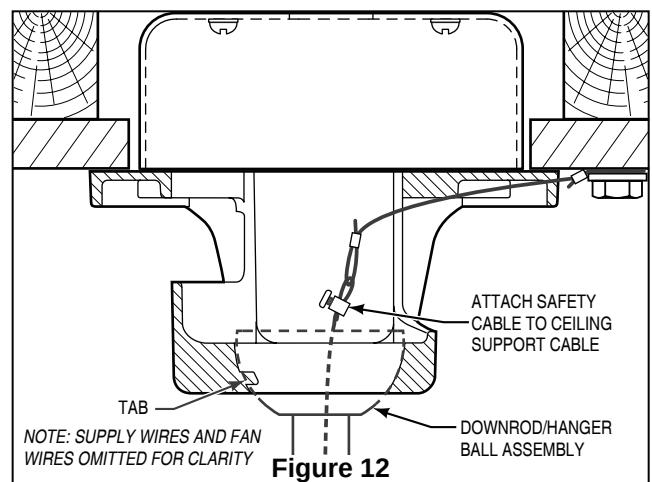

Figure 12
- ☐ 4. Carefully lift the fan and seat the downrod/hanger ball assembly on the hanger bracket that was just attached to the outlet box. Be sure the groove in the ball is lined up with tab on the hanger bracket (Figure 12)
- ☐ 5. Attach the safety cable to ceiling support cable. Slide cable clamp onto safety cable (from fan). Place the end of cable through the loop of ceiling support cable. Pull as much cable through loop as possible. Feed end of cable into clamp hole and firmly tighten screw (Figure 12).